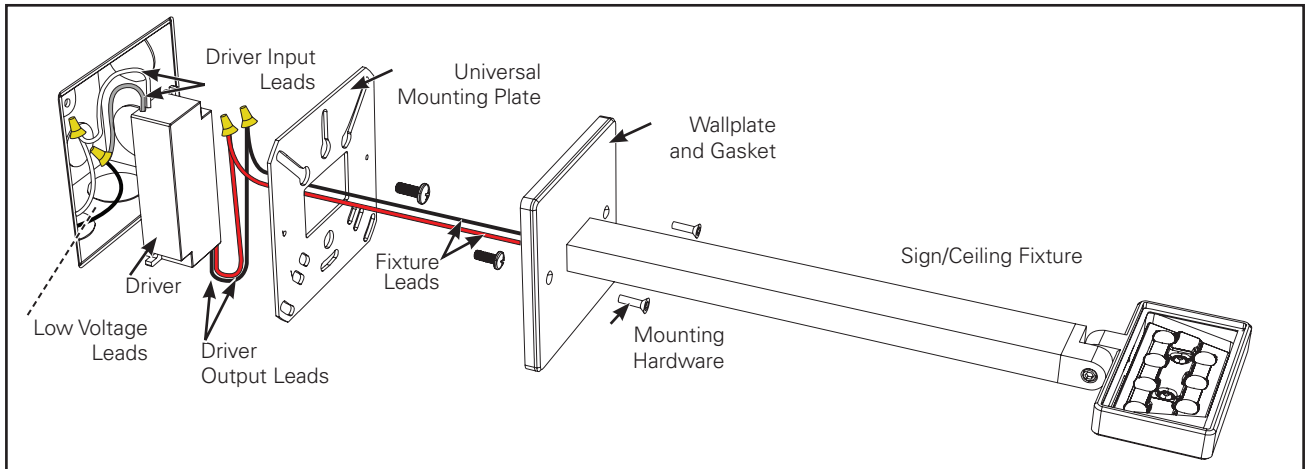

Figure 1.
1. Unpack EON Sign/Ceiling Fixture and ensure all included parts are present (303-S1 fixture, Universal Mounting Plate, 8-32 Flat Head Screws (2x), and Class 2 Driver). Waterproof wire connectors, 5/64" and 9/64" Allen key, and junction box mounting hardware are required but not included. (Figure 1.)